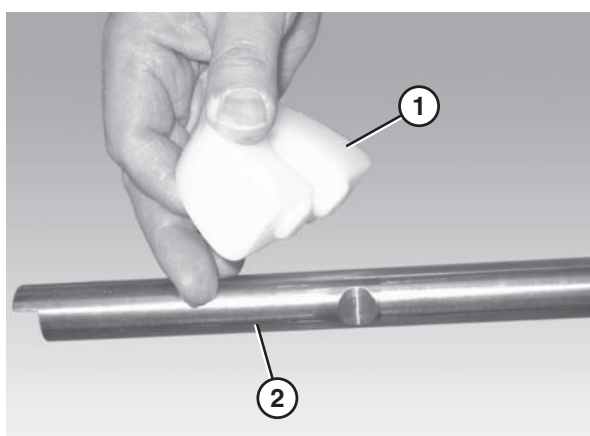

Figure 42
1. Attach the chain return shoes (**Figure 42, item 1**) to the return shaft (**Figure 42, item 2**).